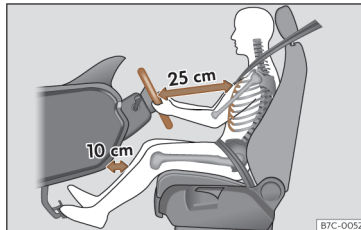

Fig. 13 The correct distance between the driver and the steering wheel must be at least 25 cm (10 inches).
- Move the steering wheel so it is at least 25 cm (10 inches) away from the sternum »» Fig. 13 and you can hold it with both hands on both sides, on the outer part, with your arms slightly bent.
- Move the seat in such a way that you can step on the pedals with your knees slightly bent and with a distance between the knees and the dashboard of at least 10 cm (4 inches)»» Fig. 13 .